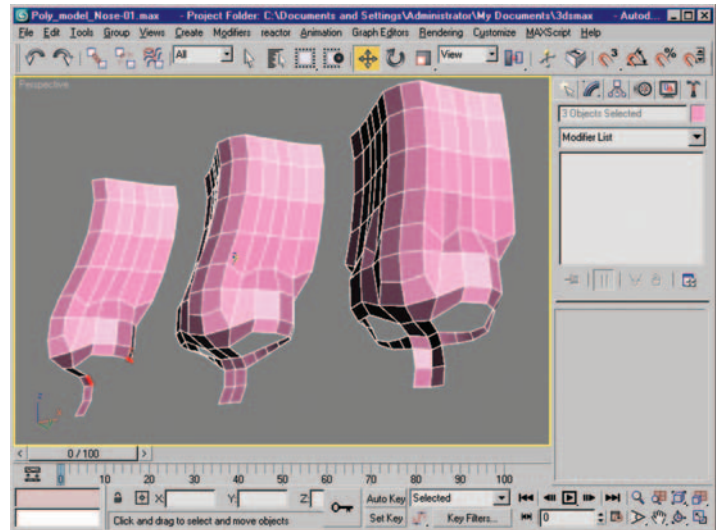

Figure 3.22 Edge selection highlighted in red. Edges after bridging. Mesh after moving and editing edges and vertices.
26. Select the two edges seen in Figure 3.22 (left mesh) and use Bridge to connect them. We are going to click on the Settings box rather than the word “Bridge.” When presented with the dialog box, input 4 for the segments and click the OK button. Bridge has bridged the gap (hence the name) and we have four new polygons neatly going from one edge to the other (Figure 3.22, center mesh).
27. This straight configuration isn't a very organic shape, so as before, we are going to move some edges and verts to create a smoother flowing and natural shape. While we are editing edges and verts, let's also create the indent found below the nose (above the middle of the upper lip area) by moving some vertices. Figure 3.22 shows the progression of our mesh.